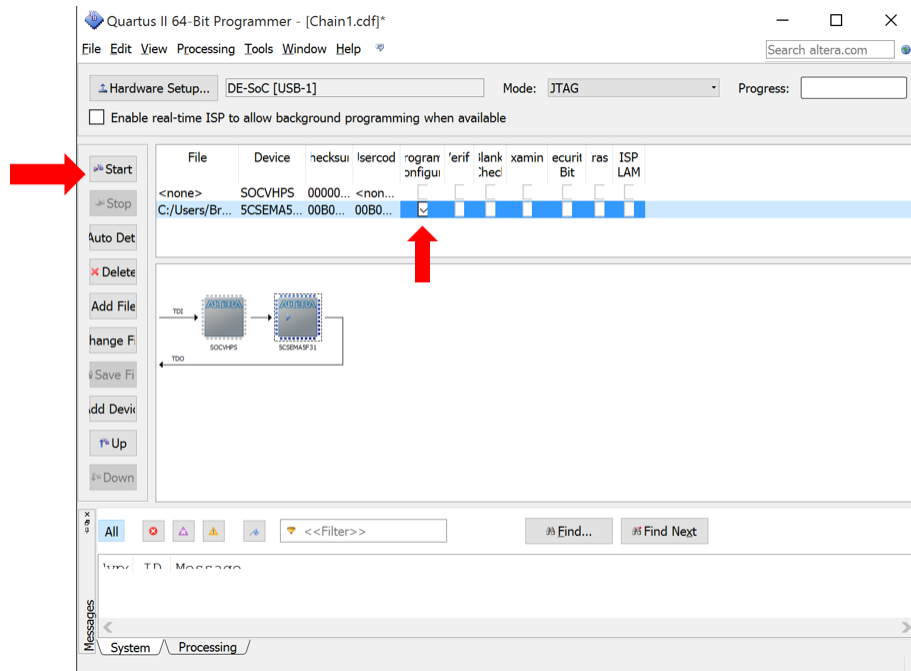

Figure 10: Verify “Program/Configure” is selected and the click “Start”.
7. You may need to select “Program/Configure” in the device chain as shown in Figure 10. Then select “Start” and your device should program!